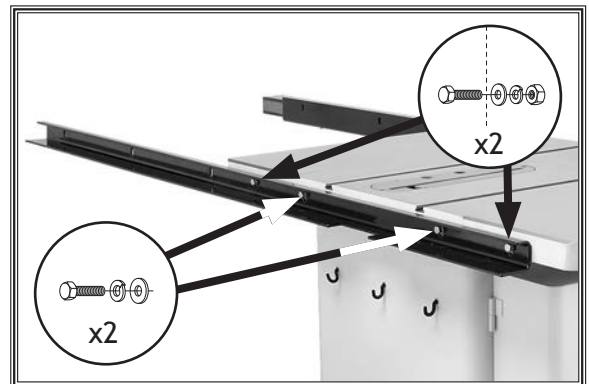

Figure 21. Rear rail installed (W1820).
12. Attach the rear rail to the main table using two $\frac{5}{16}$ -18 x 1 hex bolts, 8mm lock washers and 8mm flat washers, as shown in **Figure 21**.